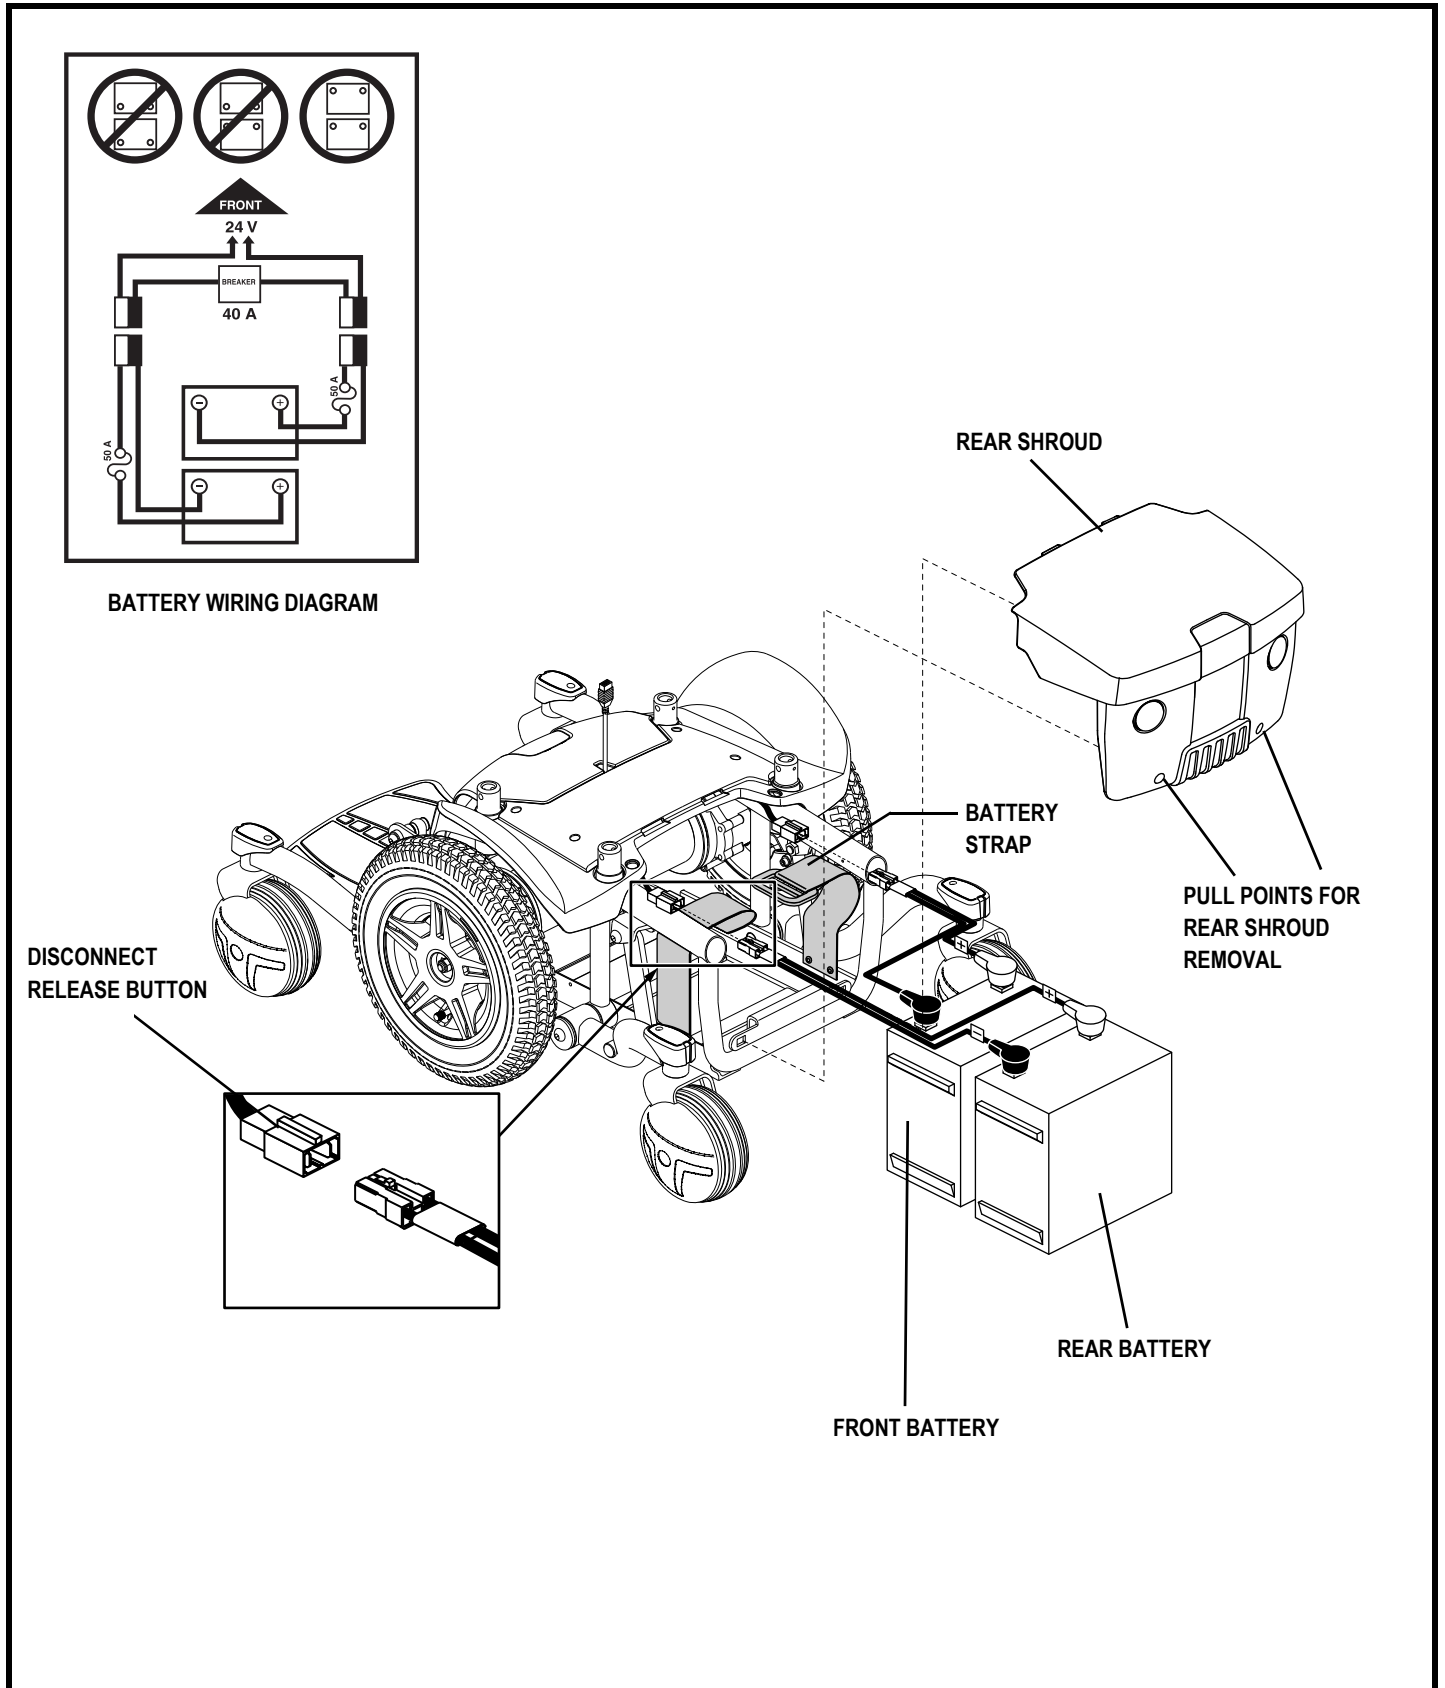

Figure 23. Battery Removal/Installation
A battery wiring diagram is printed on a decal located on the front battery tray. See figure 23. See VI. "Batteries and Charging" for correct battery specifications.
3. Pull to remove the rear shroud. See figure 23.
4. Push down on the disconnect release button and disconnect the rear battery harness from the power base. See figure 23.
7. Push down on the disconnect release button and disconnect the front battery harness from the power base. See figure 23.
10. Install a battery harness onto each new battery according to the battery wiring diagram. See figure 23. Make sure that you connect the red wire to the positive (+) battery terminal and the black wire to the negative (-) battery terminal for each battery.